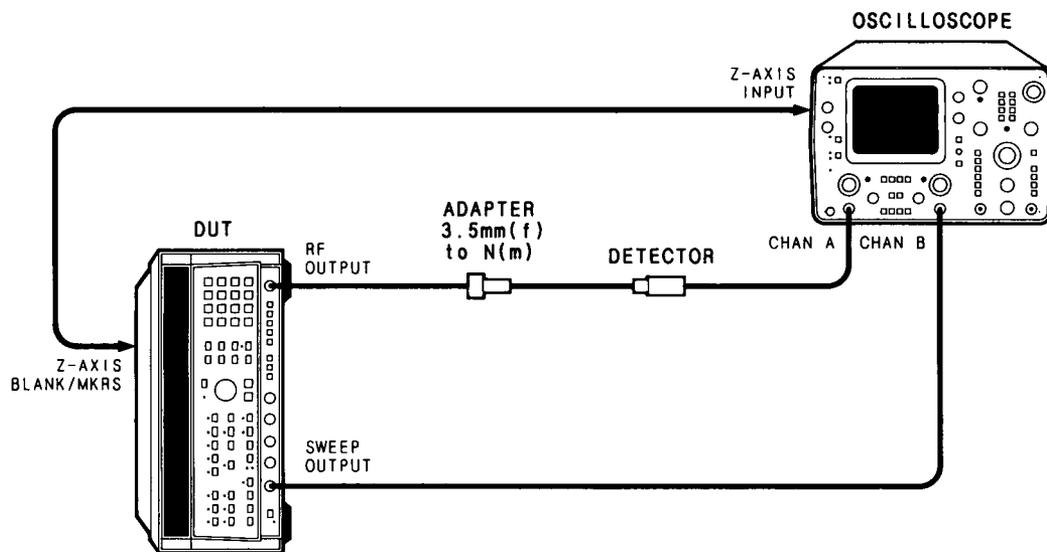

Figure 5-57. Leveled Bias Adjustment Setup, Bands 2 and 3
18. Remove the oscilloscope probes and connect the detector and oscilloscope as shown in Figure 5-57. On the DUT, press **[INSTR PRESET] [RECALL] [2]**. Press **[SWEEP TIME] [AUTO]**. Press **[SHIFT] [PWR SWP] [-] [2] [0] [dBm]**.